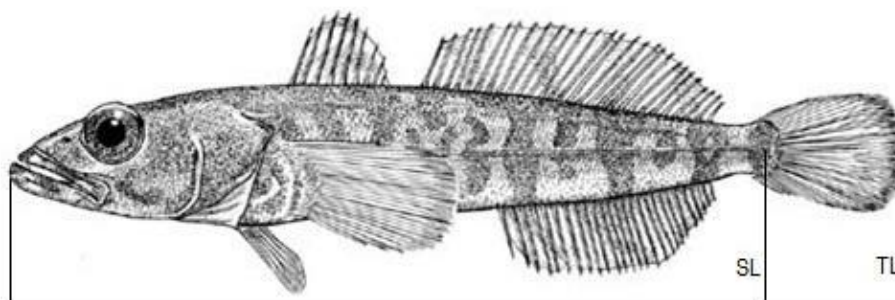

Figure 1: Measurement of Toothfish and most other finfish bycatch species
For Toothfish (and most other fish with a distinct tail) measure for standard (SL) and total length (TL). Standard length (SL) is measured from the most anterior part of the snout to the end of the vertebral column (Figure 1). An easy way to determine SL is to bend the tail upwards and a crease will form at the point of the last caudal vertebra. Total length (TL) is defined as the distance from the most anterior part of the snout to the furthest tip of the tail. Lightly 'streamline' the tail before measuring: i.e. the tail should not be spread to its extreme, nor completely compressed.